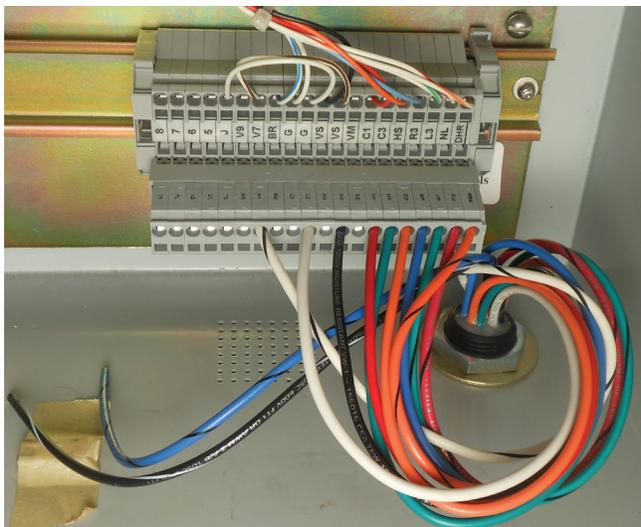

Figure 9. Pigtail wires connected to dead-front terminal board.
- B. For the dead-front style connector (Figure 9) :